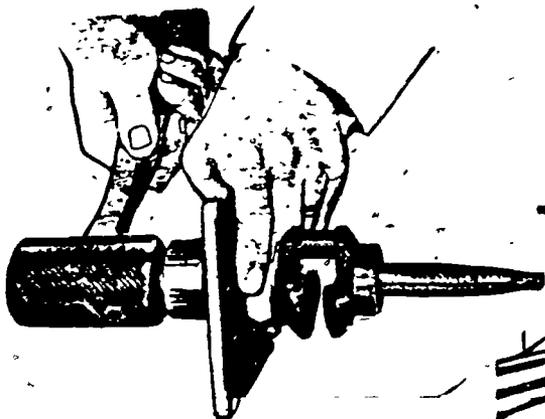

FIGURE 10
- 2 Remove crankshaft from block and bearing plate (Figures 10 and 11)